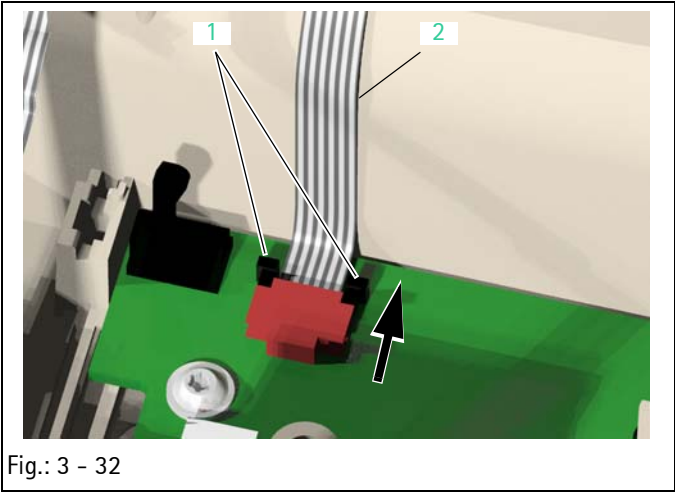

Fig.: 3 - 32
1. Push the right and left connector lock (Fig.: 3 - 32 / Item 1) on the processor PCB carefully forward.
2. Pull the ribbon cable (Fig.: 3 - 32 / Item 2) out of the connector.
Legend of fig. 3 - 32: